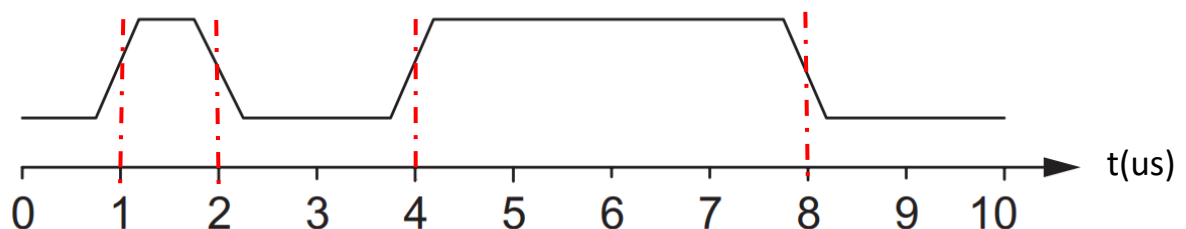

Figure 2. An input signal.
**1B** : Consider an input signal as shown in Fig.2. and its rising and falling time are **100ps**. The clock rate is **1MHz**. **Determine** the activity factor for the signal. (5%)
**1C-b**: Using Fig.2 as an input signal and using hspice to **measure** the power of circuit you designed in **1C-a**. Additionally, you have to **calculate** the dynamic power and compare with hspice measurement result to **explain** the difference.